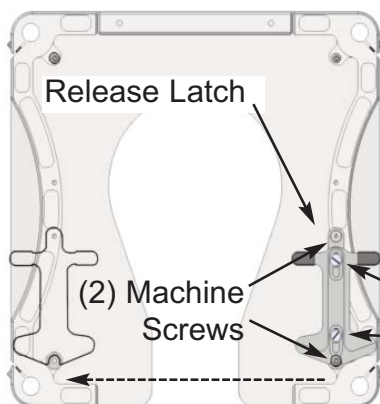

Figure 10
- 4) Reverse the release latch: Use the provided black L-Handle wrench to remove the latch by unscrewing the two machine screws, which attach it to the seat frame. Re-install the release latch on the opposite side of the seat frame (Refer to Figure 10).